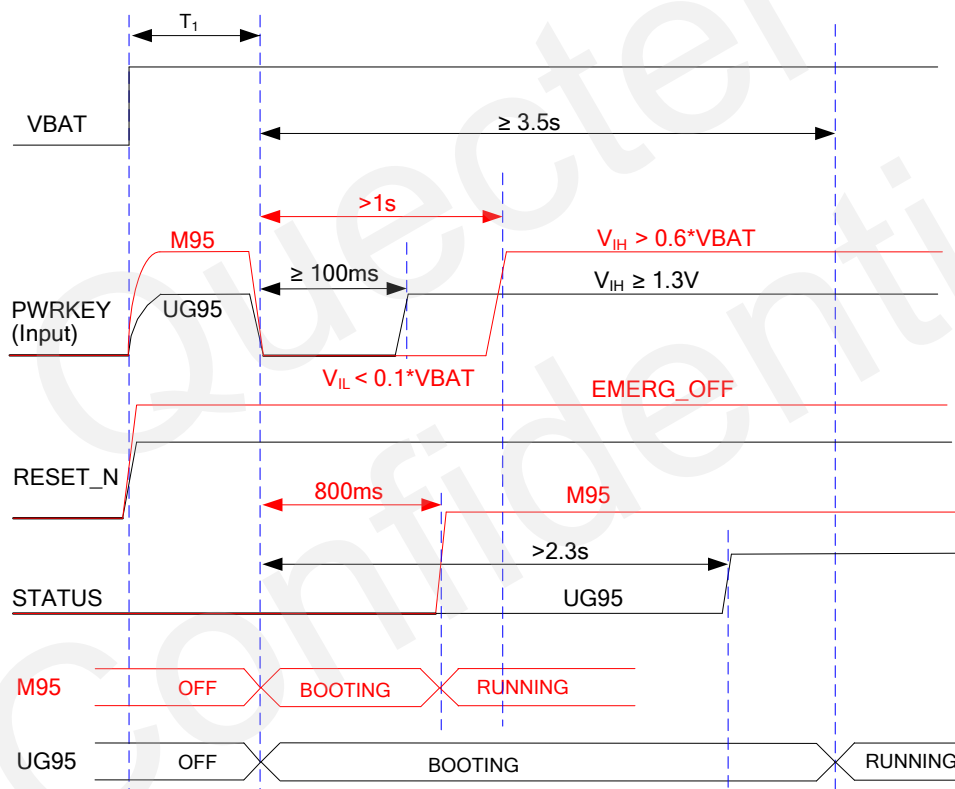

Figure 6: Timing of Turning on Scenarios
3. The part in Figure 6 marked in red is for M95 R2.0.